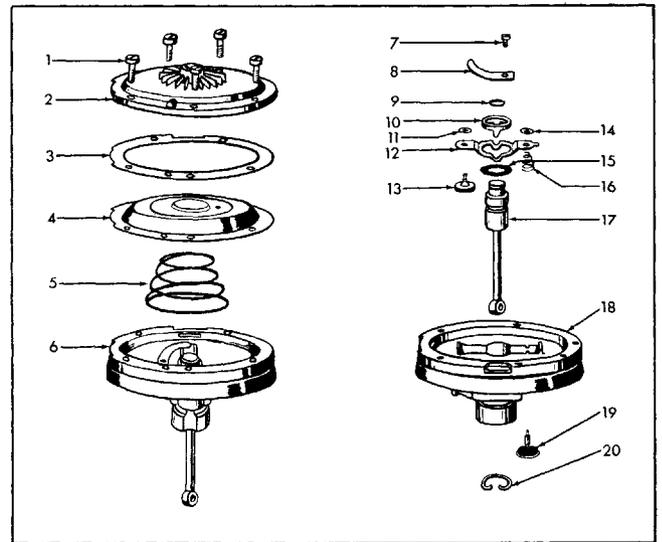

Fig. 5-26 Removal of Front Piston Plate, Diaphragm, Push Rod and Plunger, and Poppets
**REMOVAL OF FRONT PISTON PLATE, DIAPHRAGM, PUSH ROD AND PLUNGER, AND POPPETS (FIG. 5-26)**